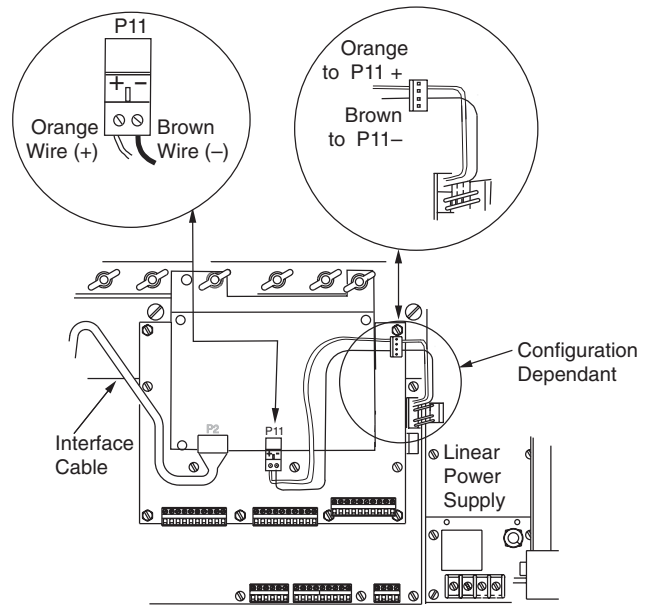

Figure 5.
- A. Disconnect the orange/brown wire from the power supply to the optional I/O board. Discard wire. See Figure 5.
- D. Connect stripped areas of wires to P11 with orange wire to + side of connector. Refer to Figure 5.